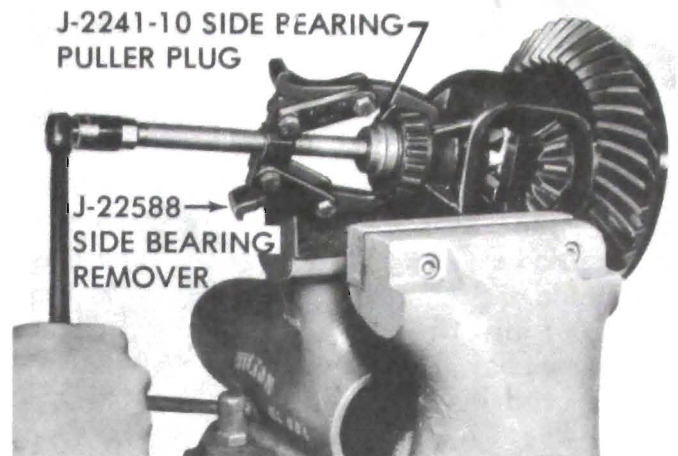

Figure 40-120 - Removing Differential Side Bearings
1. If differential side bearings are to be replaced, insert Remover Adapter J-2241-10 in center hole and pull bearing using Puller J-22588. See Figure 40-120.